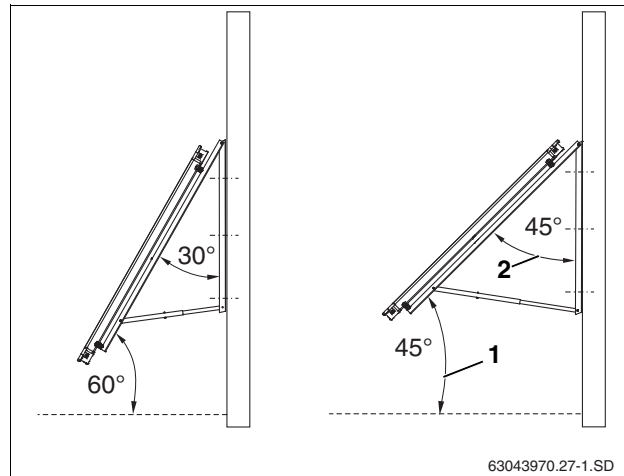

Fig. 10 Permitted inclination of the collector on a wall
- ▶ The collector inclination (Fig. 10, [1]) to the horizontal must be between 45° and 60° (Fig. 10, [2]) of the collectors to the wall must be between 30° and 45°)